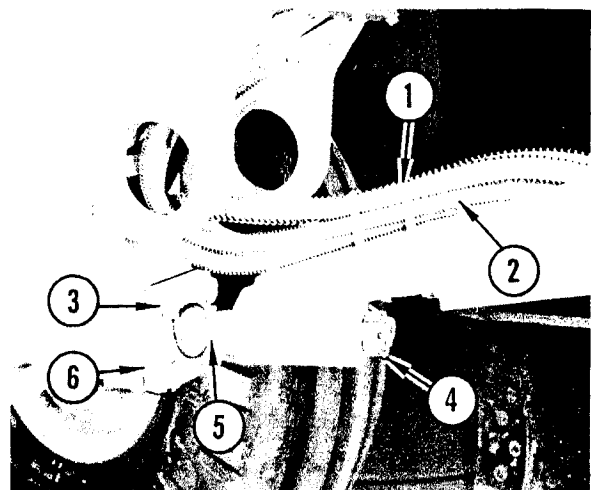

FIGURE 25. DISCONNECTING DRAWBAR
Refer to Figure 25. Remove bands (1). Disconnect hydraulic lines (2) and remove